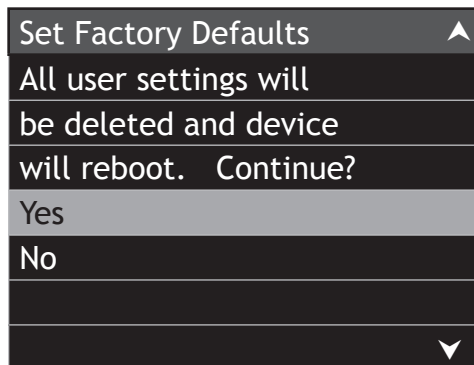

Figure 93
4. Using the ▲ (Up) Push-button highlight “Yes” and press the SELECT Push-button. Refer to figure 93.